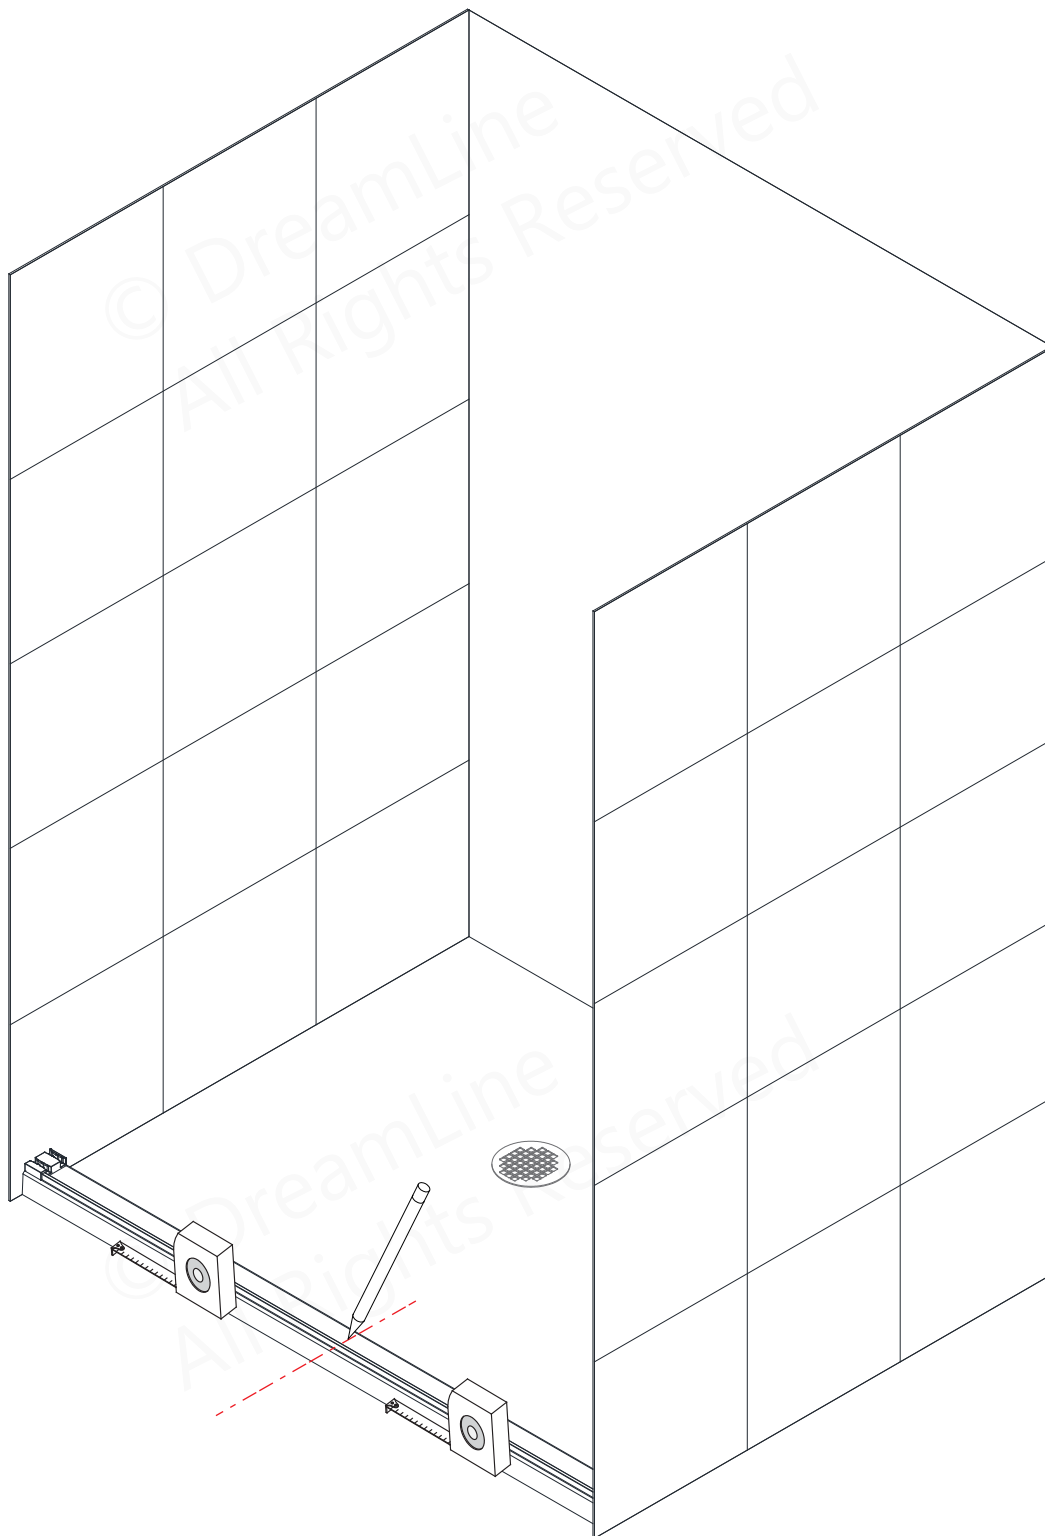

Fig 8
8. Measure across the width of the threshold to locate and mark the center. (Fig 8)